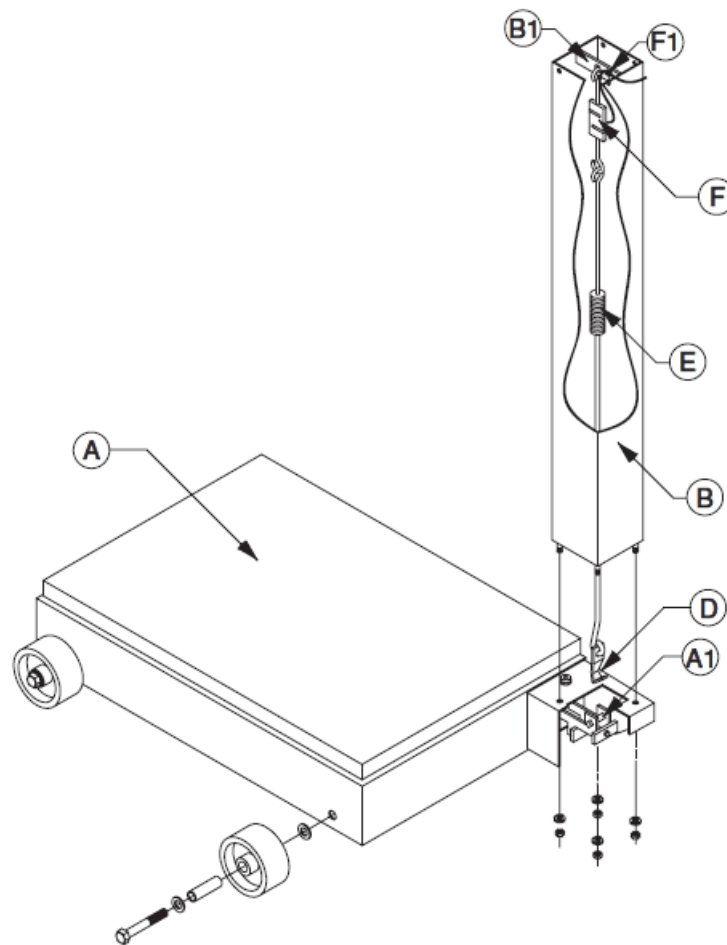

Figure No. 1 Scale Base and Column Assembly Diagram Models 585XF and 885XF
- Refer to Figure No.1 and follow the instructions provided below for scale assembly.
2. Insert column (B) into scale base assembly (A) and secure the with 3/8 split lock washers and 3/8-16 hex nuts.